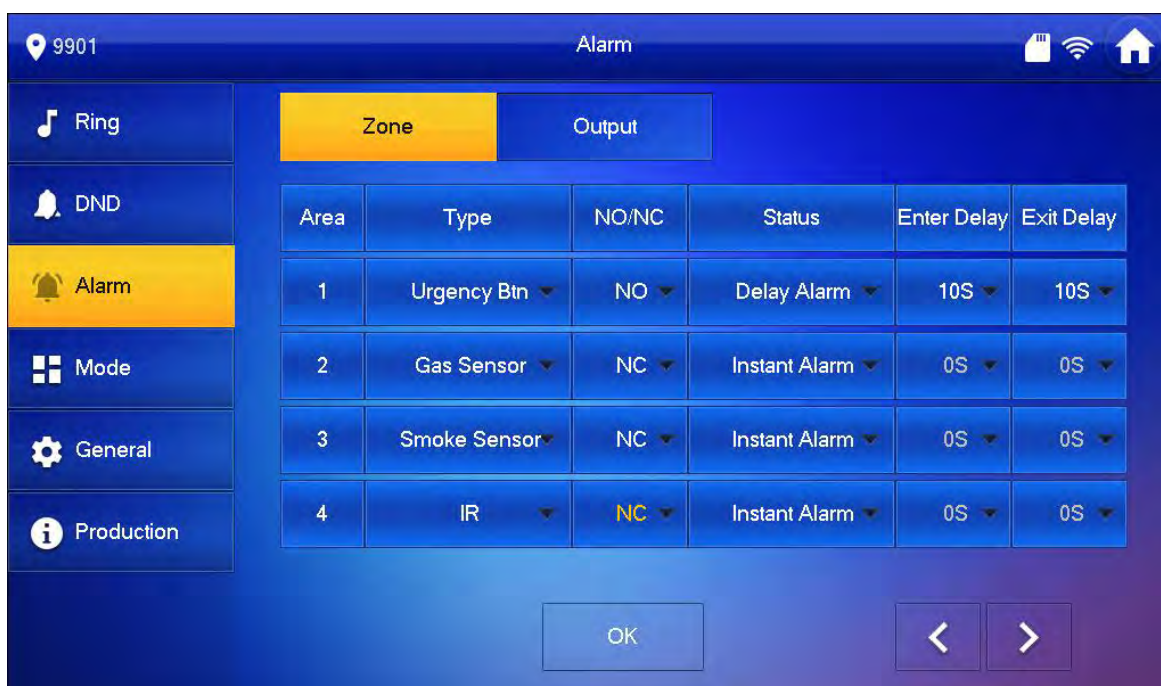

Figure 5-5
Step 1. Go to Setting>Alarm. See Figure 5-5.